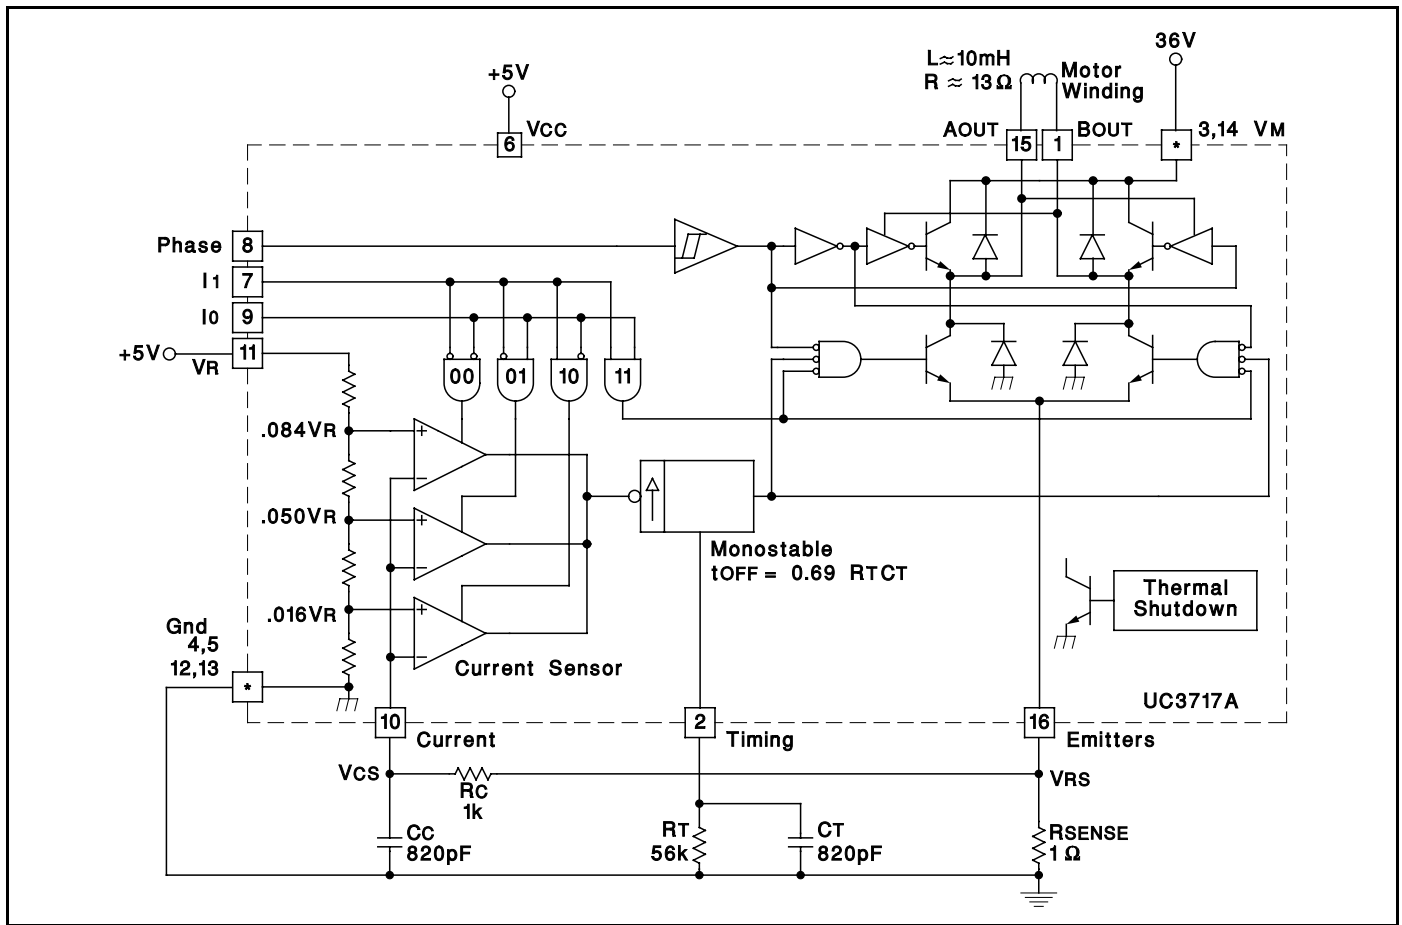

Figure 6. UC3717A Test Circuit
**ELECTRICAL CHARACTERISTICS** (Refer to the test circuit, Figure 6.  $V_m = 36V$ ,  $V_{cc} = 5V$ ,  $V_R = 5V$ ,  $T_A = 0^\circ C$  to  $70^\circ C$ , unless otherwise stated,  $T_A = T_J$ .)
(Refer to the test circuit, Figure 6.  $V_M = 36V$ ,  $V_{CC} = 5V$ ,  $V_R = 5V$ ,  $T_A = 0^\circ C$  to  $70^\circ C$ , unless otherwise stated,  $T_A = T_J$ .)